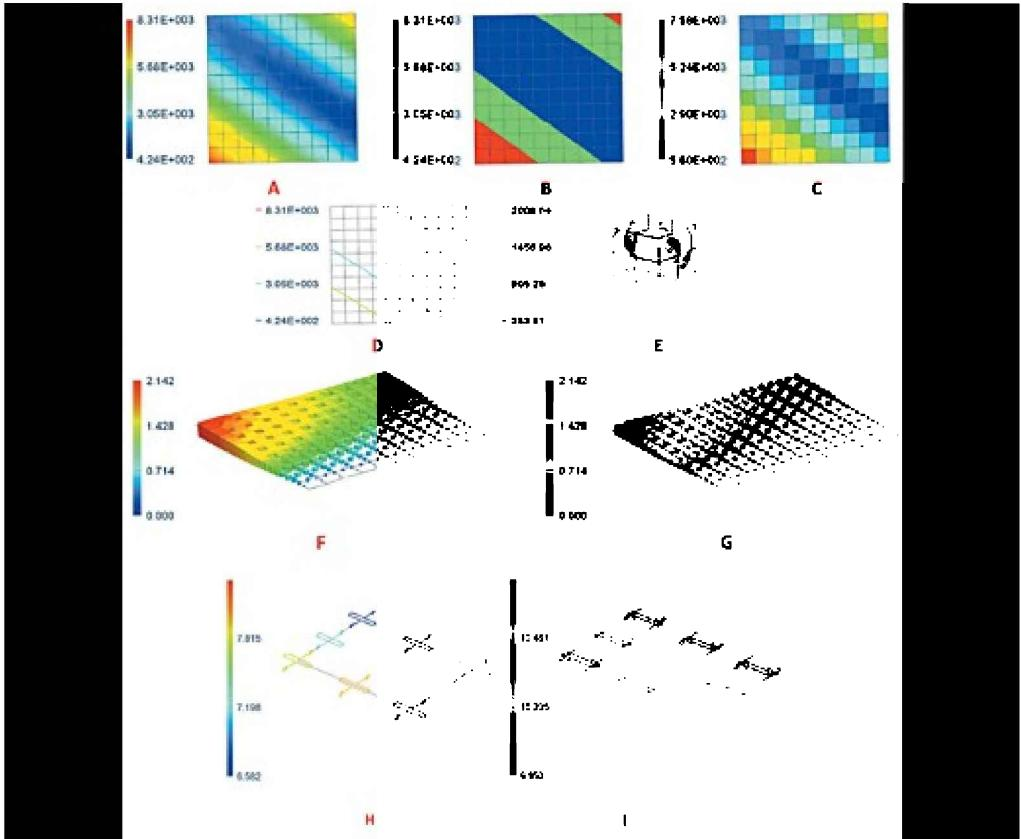

Figure 5.18. Different results display types
- *Smooth*: smooth display of results (Figure 5.18, A).
- *Bounded*: display with sharp boundaries (Figure 5.18, B).
- *Element*: displaying a value for each element (Figure 5.18, C).
- *Iso-Line* (Figure 5.18, D).
- *Iso-Surface* (Figure 5.18, E).
- *Cubes* (Figure 5.18, F).
- *Spheres* (Figure 5.18, G).
- *Tensors* – (Figure 5.18, H, I).